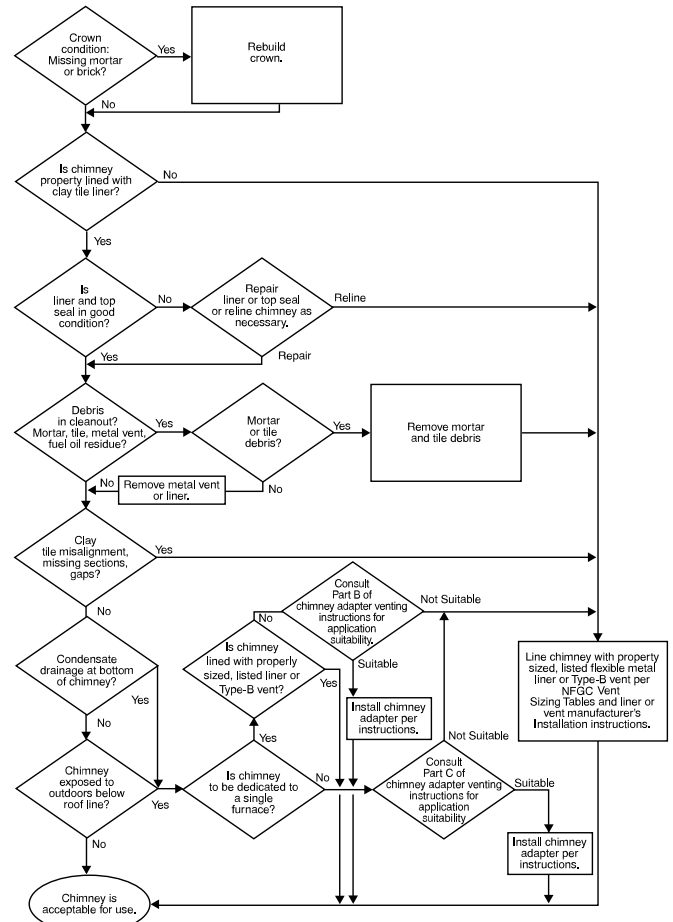

Fig. 31 – Chimney Inspection Chart
6. Do not vent this appliance into an unlined masonry chimney. (Refer to Chimney Inspection Chart, Fig. 31).
Inspections before the sale and at the time of installation will determine the acceptability of the chimney or the need for repair and/or (re)lining. Refer to the Fig. 31 to perform a chimney inspection. If the inspection of a previously used tile-lined chimney: